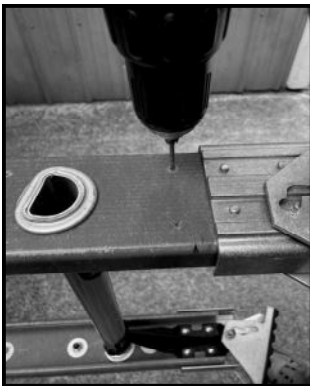

Figure 13
5.) Drill Pilot Holes: Using a 1/8” diameter drill bit, drill a pilot hole in the middle of each indicator circle. Then, using the correct drill bit, per Rules A - E on page 1, drill all mounting holes out. Use a 3/16” diameter drill bit for smaller mounting holes and an 5/16” diameter drill bit for all larger mounting holes. Repeat these steps on opposite side of ladder. (See Figure 13 on Next Page)